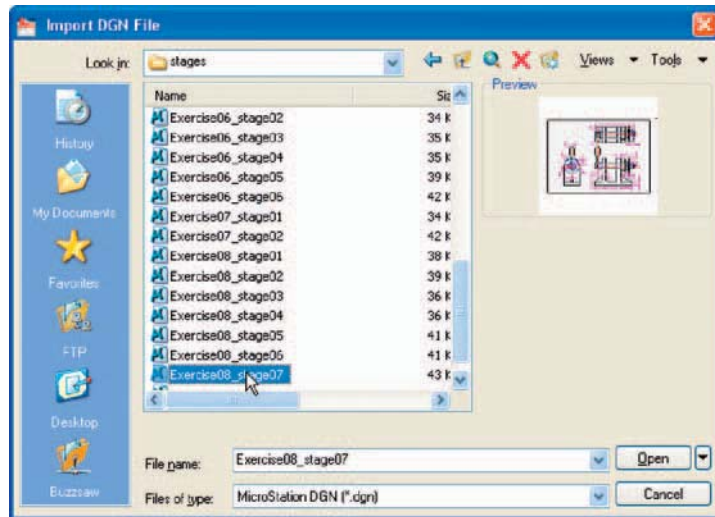
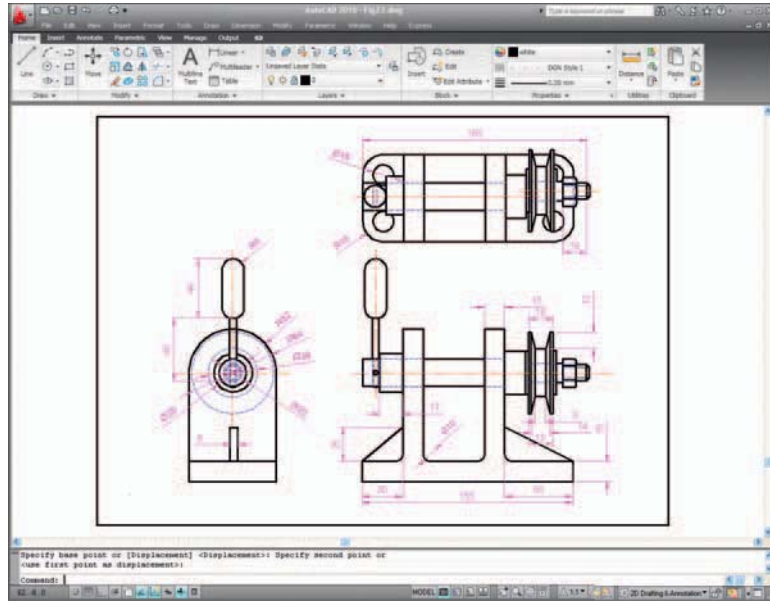

Fig. 10.21 The Import DGN File dialog
Fig. 10.22 The *.dgn file imported into AutoCAD 2010
2. In AutoCAD 2010 at the command line *enter* **dgnimport**. The dialog Fig. 10.21 appears on screen from which the required drawing file name can be selected. When the **Open** button of the dialog is *clicked* a warning window appears informing the operator of steps to take in order to load the drawing. When completed the drawing loads (Fig. 10.22).